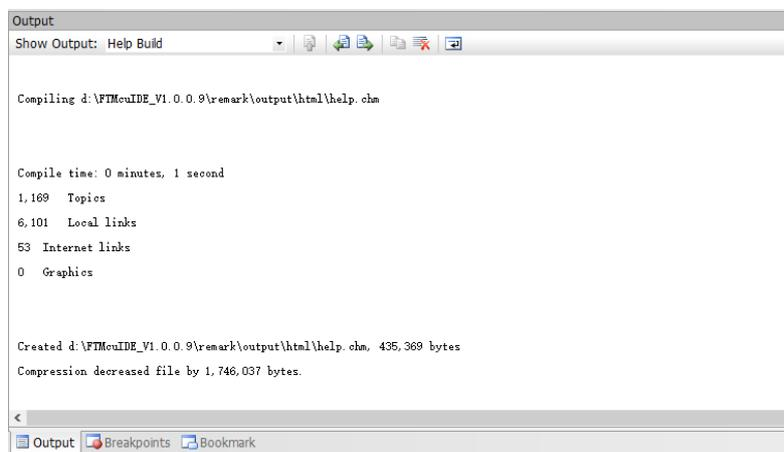

Figure 1-24
- Generate.chm : Click  or “Remark” → “Generate.chm” to generate .chm help files. The Output window displays the compilation process and results of the generated help files, as shown in Figure 1-24.